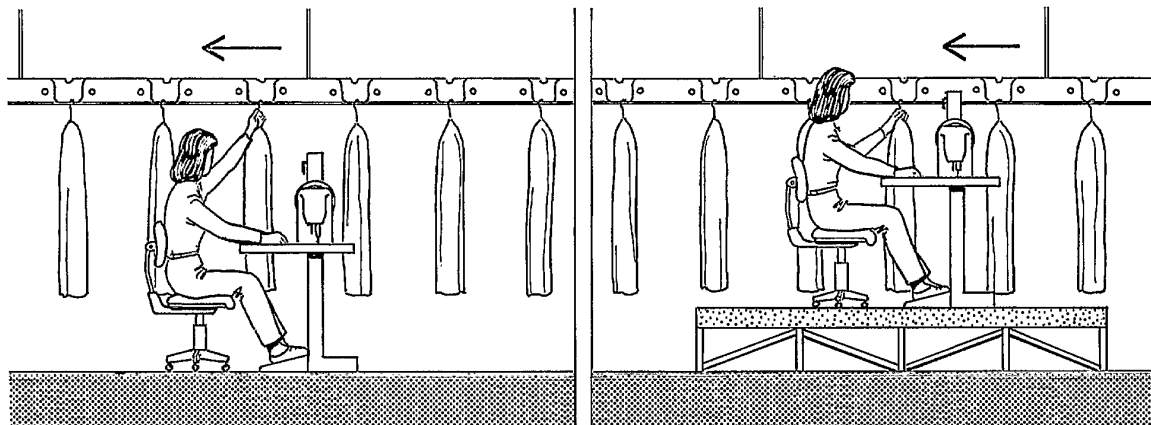

Figure 12: A too-high, uncomfortable reach for grasping hangers from a moving rail can be avoided by raising the workplace using a platform.
- any worker who needs to reach a specific work point comfortably. For example, by raising the workstation a worker can reach to and from a conveyor belt without causing excessive strain on the shoulder (see figure 12).